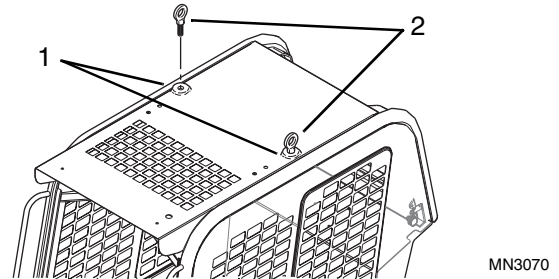

Figure 9-28 Operator Protective Structure Lift Points
8. Two threaded holes (Fig. 9-28, 1) are located in the top of the Operator's Protective Structure. Remove the plastic plugs and install a 3/8-16 forged steel hoist eye (2 [must obtain locally]) into each hole.
9. Attach a suitable lifting device to both hoist eyes (Fig. 9-28, 2), and remove any slack from the lifting equipment to ensure the Operator's Protective Structure remains in the raised position while disconnecting the shocks in the following step.